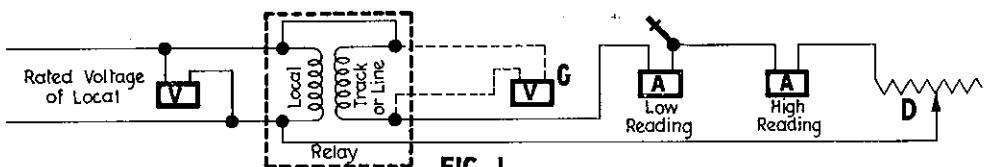

FIG. 1
- 23 Methods for making pick-up, working, drop-away and phase angle tests of various types of relays are shown on Page 4, Figs. 1 to 8 inclusive.
- 24 The method of test as shown in Fig. 1 provides for a phase angle between currents in the local and track or line windings of the relay, approximately equal to the phase angle between the voltage and current of the local winding. This shall be known as the test phase angle of the relay and these values may be translated to any phase angle desired by multiplying by proper factor obtained from curves shown on Page 4, Fig. 8.